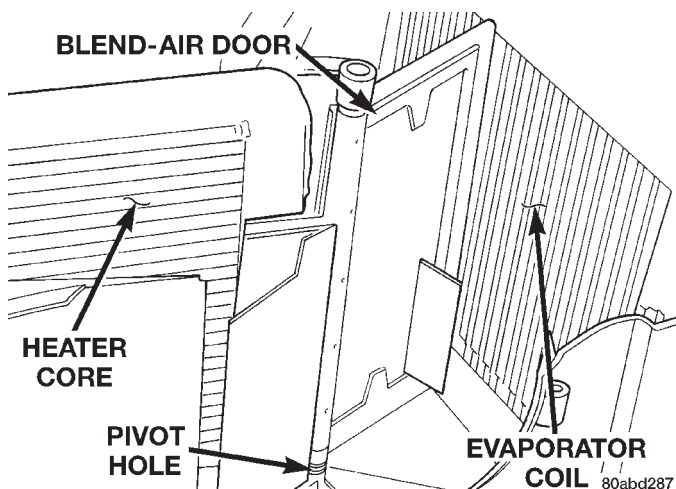

Fig. 51 Blend-Air Door
(1) Remove and disassemble the heater-A/C housing. See Heater-A/C Housing in this group for the procedures.
(2) Lift the blend-air door pivot shaft out of the pivot hole in the bottom of the lower half of the heater-A/C housing (Fig. 51).